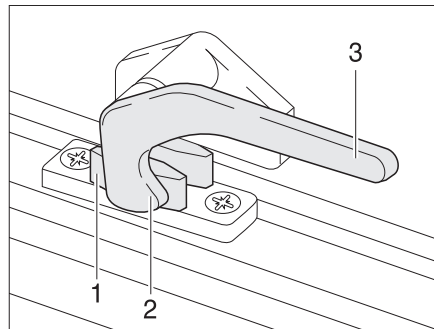

Fig. 71 Catch lever in "closed" position
- Turn the catch lever (Fig. 71,3) a quarter turn towards the centre of the window.
- Turn the catch lever (Fig. 71,3) a quarter turn towards the window frame. The locking catch (Fig. 71,2) is located on the inside of the window catch (Fig. 71,1).
- Firmly closed (Fig. 71).